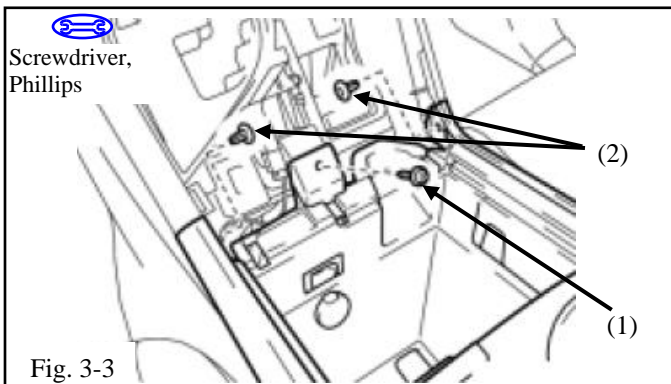

Fig. 3-3
- (c) Remove the one screw (1) and two push clips (2) from the forward top side of the console box. (Fig. 3-3)